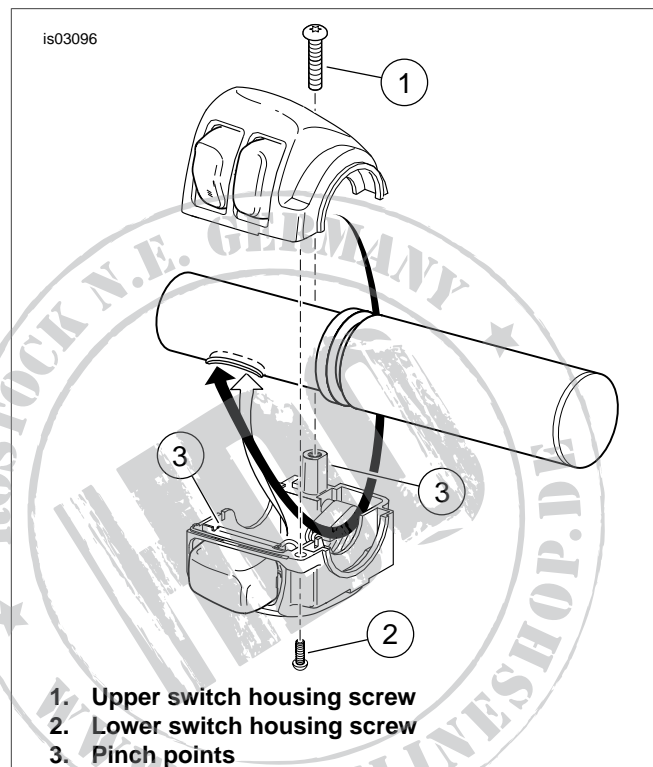

Figure 2. Switch Housing Wire Routing (Right Side Housing Shown)
See Figure 2. Route the right side switch wire bundle through the switch housing as shown. Gently feed the wire bundle into the right side switch wire hole.
10. Route the left side switch wire bundle through the switch housing as shown in Figure 2 for the right side wiring. Gently feed the wire bundle into the left side switch wire hole.